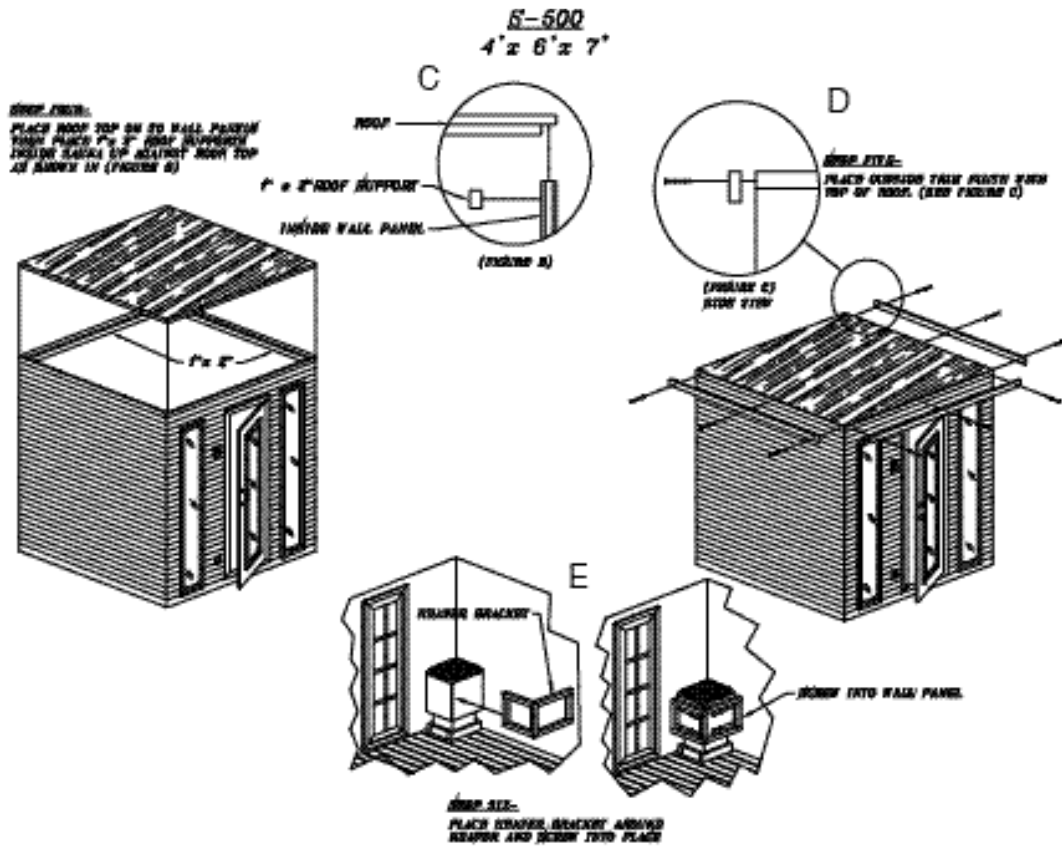

Figure 13B. S-500 Extreme Sauna Step 4 through Step 6.
**NOTE:** The following steps deal with **Figure 13B**.